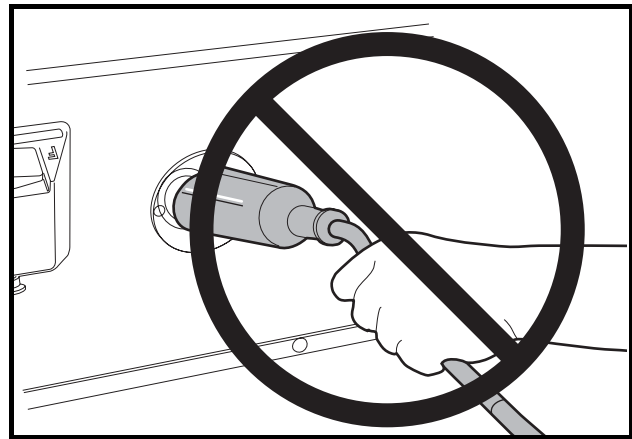

Figure 23 Incorrect Insertion of Charger DC Plug
- Do not pull on the DC cord (Figure 23, Page 38). Do not twist, rock or bend the plug. To disconnect the charger plug from the vehicle receptacle, grasp the plug by the handle and pull the plug straight out of the receptacle.